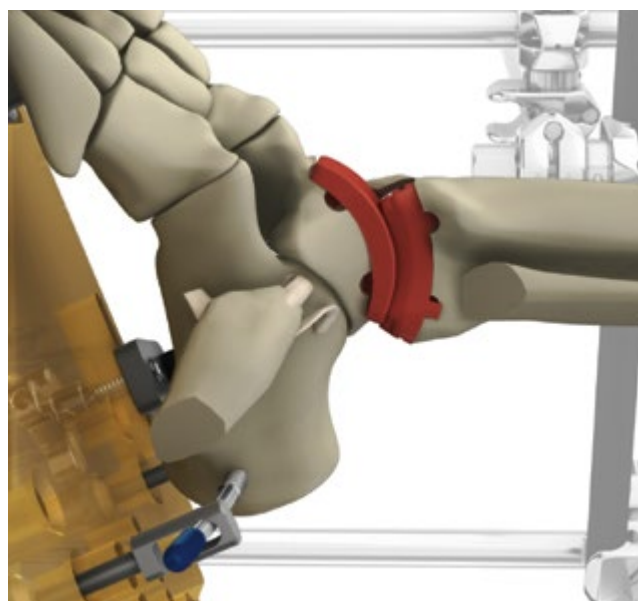

Fig. 81a
- Perform a trial range of motion (Fig. 81a & 81b).